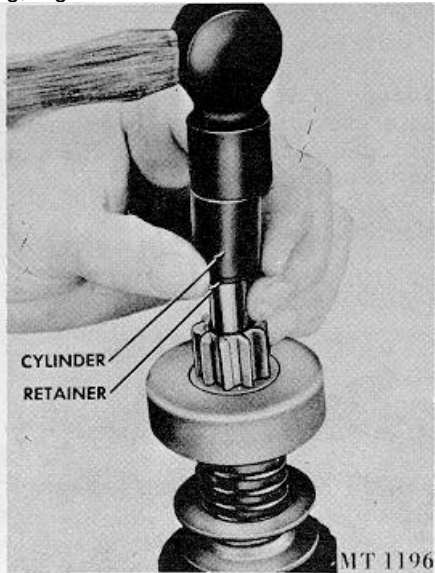

Fig. 7 Removing Retainer from Snap Ring
6. Remove the pinion from the armature by sliding a metal cylinder onto the shaft; with a hammer striking the metal cylinder against the retainer, drive the retainer toward the armature core and off the snap ring, Fig. 7.